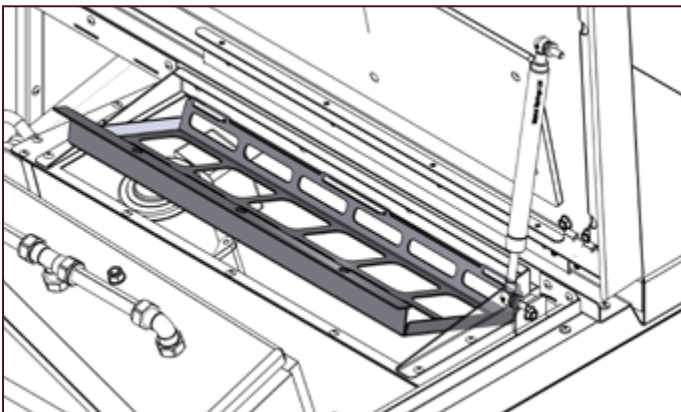

Figure 10-2: Removing the pellet hopper grille
5. Remove the pellet hopper grille. Pull up the front edge. Lift the grille off the three tabs in the slots along at the rear edge, and remove it from the boiler. Refer to Figure 10-2.